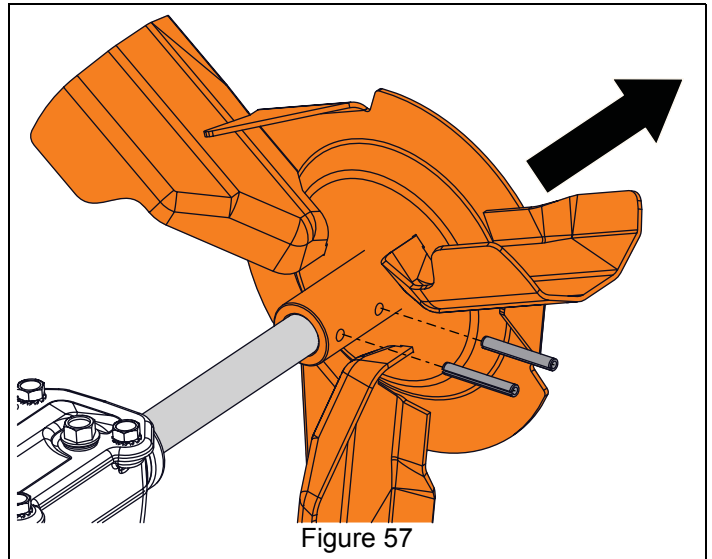

Figure 57
See Figure 57.
- See Figure 57.